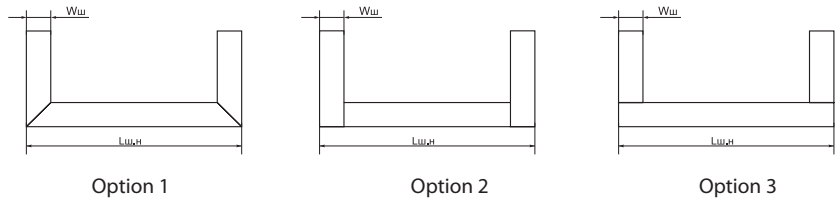

Figure 2.5 Options of the lower frame of the roller shutter.
2.3.3 The lower frame options are provided in Figure 2.5.